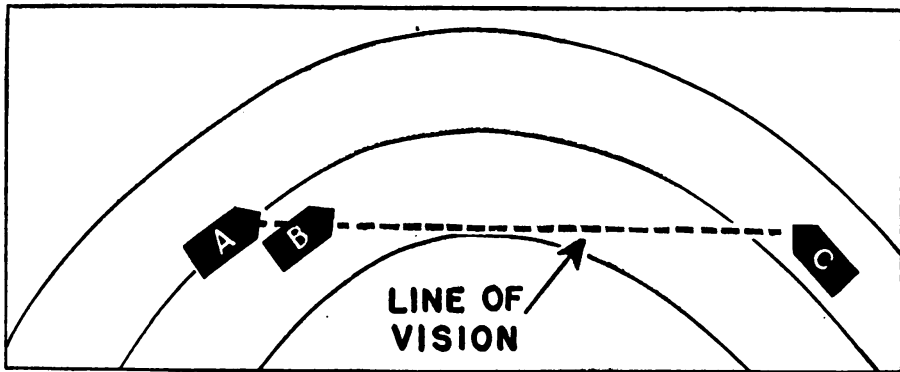

FIGURE 22.
**b. Passing on curves.**—Ask the class to give reasons why passing on a curve is dangerous and to give specific cases where accidents resulted, explaining why the accidents occurred. Make a large blackboard drawing of figure 22. Point to drawing and ask class what might happen if car A attempted to pass car B and what the driver of car C should do in a situation like this. Emphasize that the danger of an accident in such a situation would probably be much greater after dark. Bring out the factors which would increase the danger at night, such as the increased difficulty of judging distances and speeds, headlight glare, and the possibility that one or more of the cars might be driving with only one headlight on. Point out the value of observing center lines when passing on curves and also of observing the “No Passing” signs.
(1) Drivers may not be able to see vehicles which may be approaching the crest of the hill from the opposite direction.